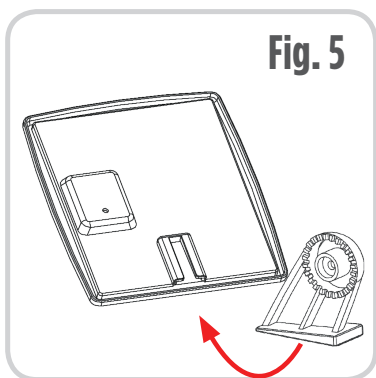
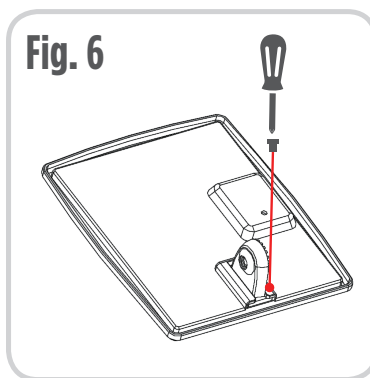

Fig. 5
Fig. 6
- Insert Part C into the groove at the bottom of Part F with the tapered end of the wedge going into the panel **(Fig. 5 & Fig. 6)**. NOTE: Push the part into the groove firmly so it does not easily slide out and tighten set screw.